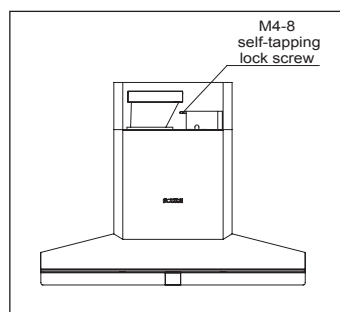

Figure 4
11. Using two people, hang the range hood on the machine hook and use the horizontal ruler to keep it horizontal. Fix the range hood and the main machine hook with a M4*8 screw as shown in Figure 4.